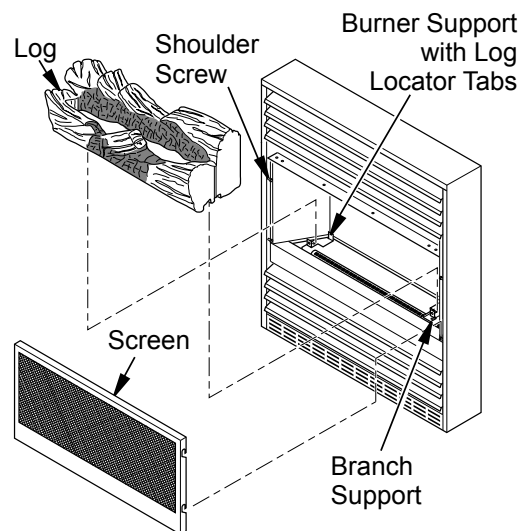

Figure 2 - Assembling Fireplace
4. Remove log packaging material and discard packaging. Gently place log set on burner support (see *Figure 2*). The log should fit flat against top of burner support and log locator tabs fit into the slots under the log. Do not allow log to contact flame. If flame contacts log, soot will be created.